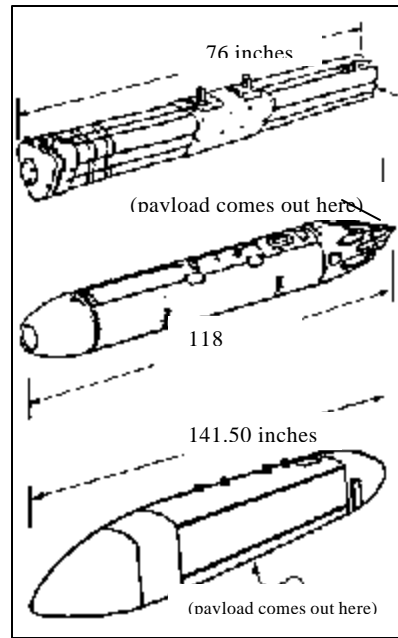

Figure 29. Attached dispensers.
- (4) **Attached dispensers.** These dispensers stay attached to the aircraft and can be reloaded and used again. Their payload is dispersed out the rear or from the bottom of the dispenser. See Figure 29.